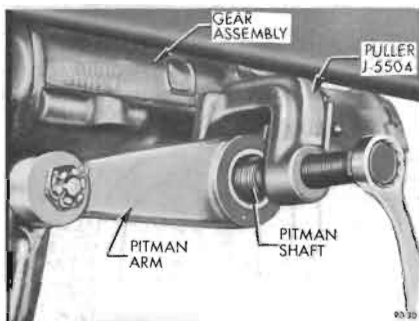

Figure 90-30—Removing Pitman Arm from Pitman Shaft
1. Remove pitman nut and disconnect pitman arm from pitman shaft using Puller J-5504. See Figure 90-30.
4. Jack up car and remove the pitman shaft nut, then remove the pitman arm using Puller J-5504. See Figure 90-30.
1. Remove pitman arm from pitman shaft. See Figure 90-30.